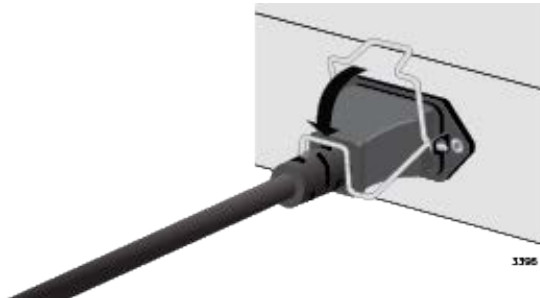

Figure 61. Lowering the Power Cord Retaining Clip
3. Lower the power cord retaining clip to secure the cord to the switch. Refer to Figure 61.